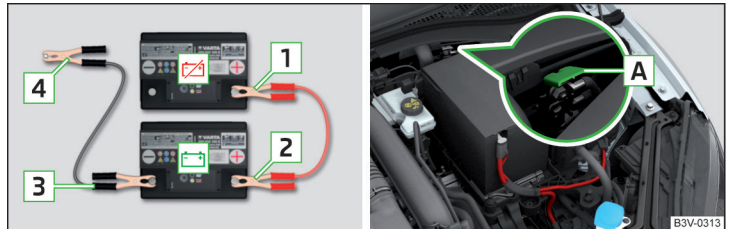

Fig. 338 Jump-starting: 🗑️ - discharged battery, 🔋 - power-supplying battery/ground point of the engine for the START-STOP system
- For vehicles **with** the START-STOP system, secure the clamp **4** to the ground point of the engine **A** » Fig. 338.